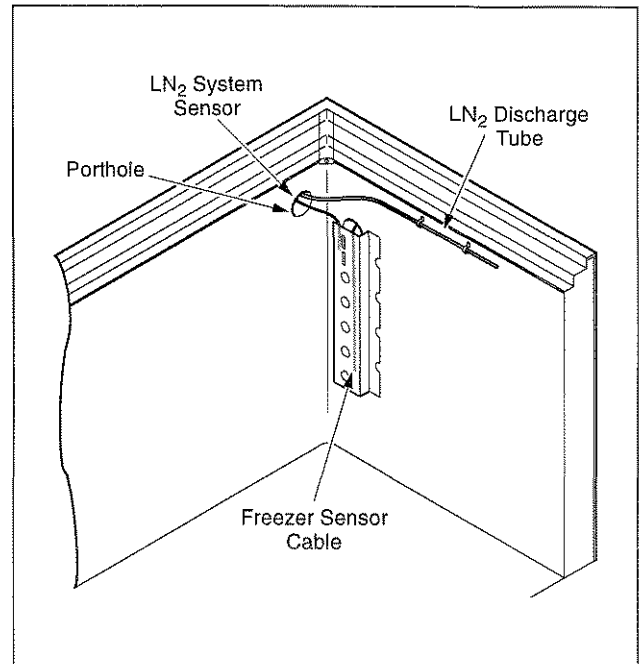

Figure 11. LN₂ System Component Placement
4. Mount the LN₂ discharge tube to the tank wall with the lower of the two screw grommets on the left front of the tank wall. Insert the tube through the rear porthole and across the left side of the tank. Then bend the tube 90 degrees so it runs downward along the inner door stop (refer to Figure 11).